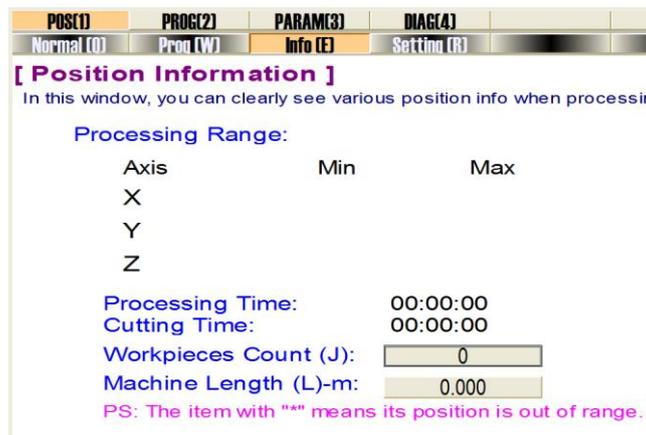

Fig. 4-29 Reset Workpiece Count
- 4) The software will reset workpiece count automatically after sharpening, as shown in Fig. 4-29.